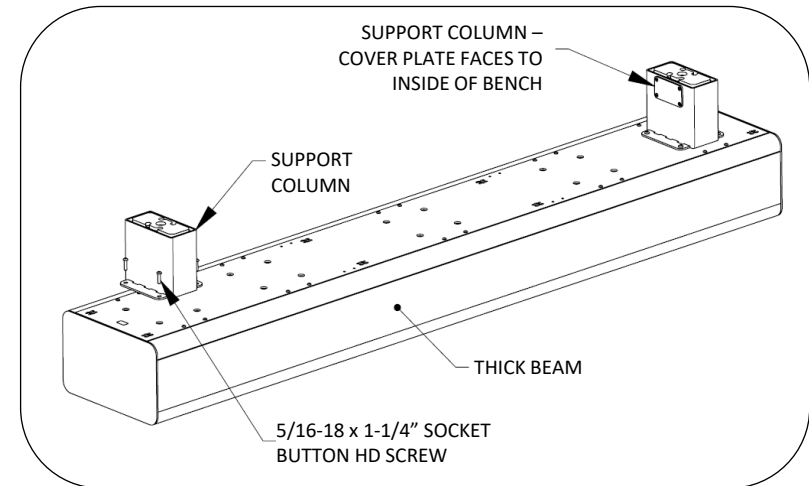
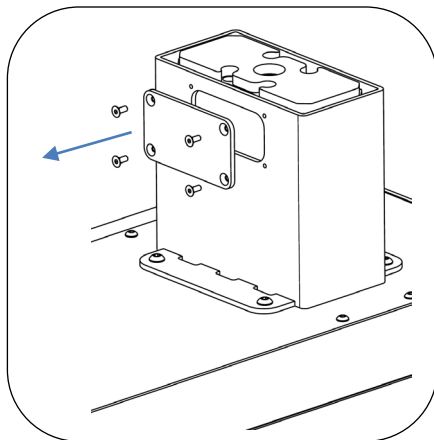
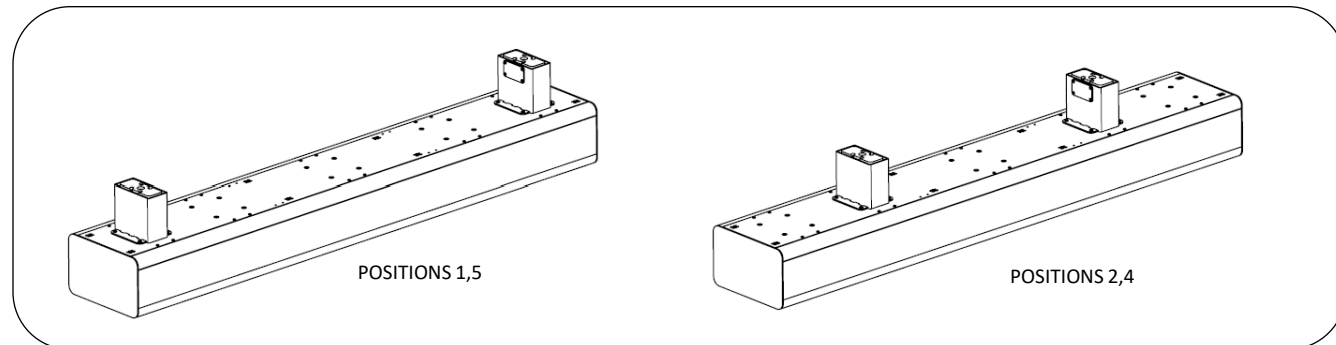

Fig. 1 – attach supports to seat panel
Fig. 2 – remove cover plate
Fig. 3 – support attachment options
1. Set thick beam seat upside down on protective surface. Set support columns in position. Refer to site plans for correct placement and orientation of support columns. For a single thick beam bench, support columns can be installed in both outside positions (positions 1,5) or both inside positions (positions 2,4), see Fig. 3. Cover plate access hole should be installed toward the middle of the bench, see Fig. 1.
2. Attach each support column to seat using (4) 5/16-18 x 1-1/4" socket button head cap screws, see Fig. 1. Remove cover plates and set aside for later use, see Fig. 2.